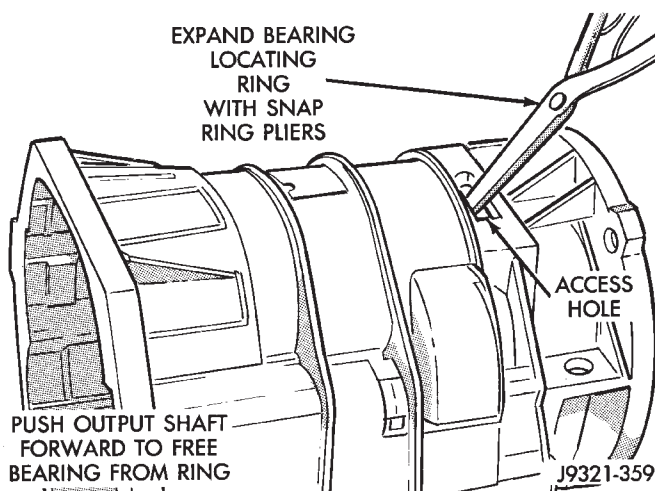

Fig. 241 Seating Locating Ring In Rear Bearing
(9) Expand front bearing locating ring with snap ring pliers (Fig. 241). Then slide case downward until locating ring locks in bearing groove and release snap ring.